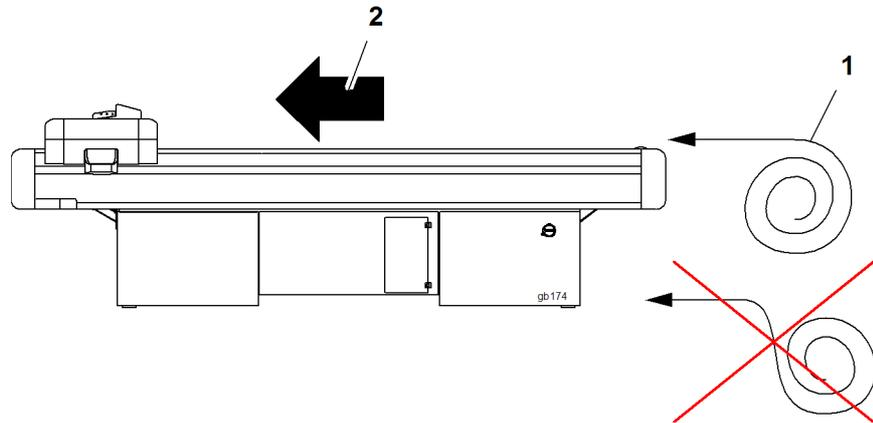

Fig. 7-19 Determining conveyor direction
- ⇒ Unroll the conveyor belt as shown in Fig. 7-19. A  stamp is located on the front upper side. The  points in the feed direction.